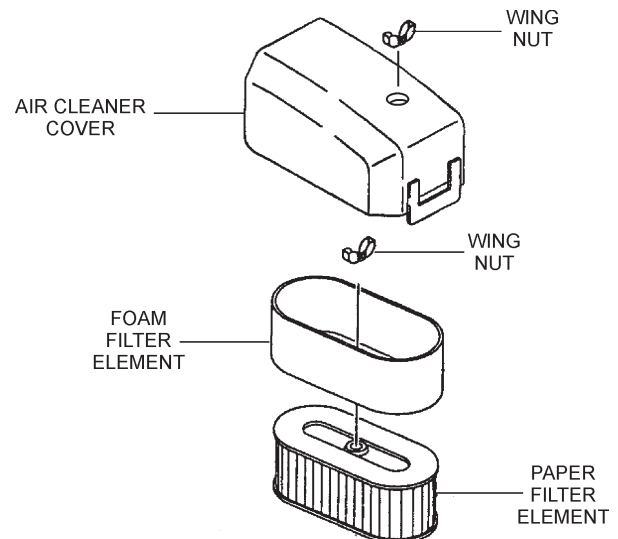

Figure 21. Engine Air Cleaner
- Remove the air cleaner cover and foam filter element as shown in Figure 21.